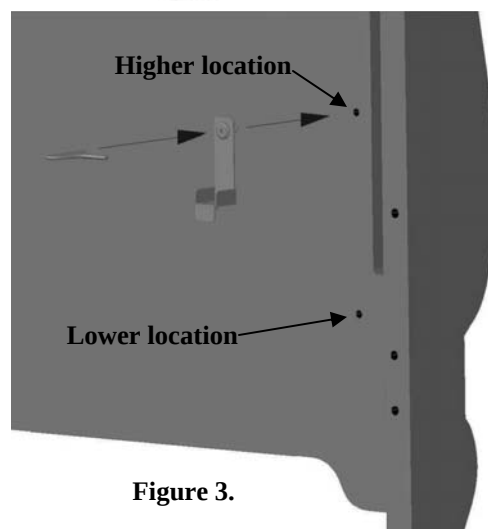

Figure 3.
- Locate the (4) Mattress Platform Brackets with attached assembly bolts as shown in Fig. 1. Determine the high or low position of the mattress foundation (Fig. 3) and attach the brackets on both the left and right end section in the same height location. (This is very important to keep the foundation level and your child safe).